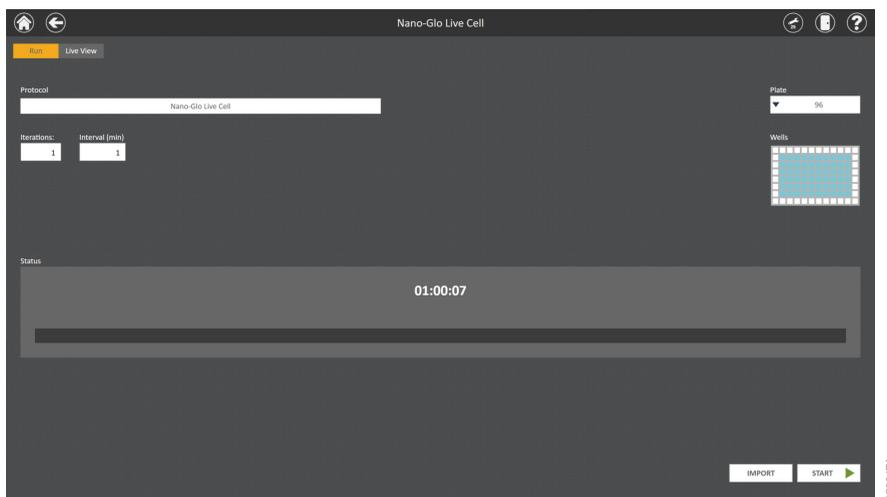

Figure 37. Time Course screen.
2. Once a New Time Course is selected for a desired protocol, the Time Course screen will appear (Figure 37).